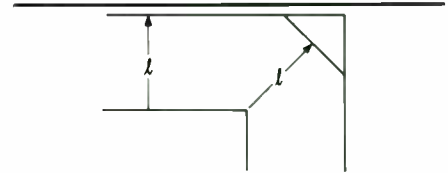
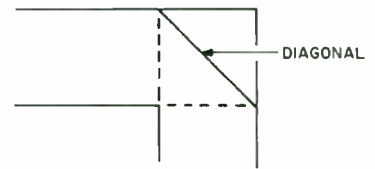

FIGURE 4: Radius corner reflector.
FIGURE 5: Diagonal corner reflector.
Another consideration is the design of the corner reflector in a 90° bend. In previous horn designs, I had approximated the corner reflector position to be tangent to the arc of the radius (Fig. 4). But subsequent wave front calculations showed that the corner reflector should be aligned along the diagonal (Fig. 5). For reasons I will not discuss here, a wave front will remain intact going through a 90° bend if the corner reflector is aligned along the diagonal, but it will be distorted if the reflector is smaller.
**50Hz HORN DESIGN.** Figures 6 and 7, are the sectional views of the bass horn. As you can see, I tried to use the University Classic folding geometry as much as I could in Fig. 4. But because a hyperbolic-exponential horn is quite long, I had to compromise with a quasi-180° bend to fit all the throat manifold in the enclosure. Another compromise was the shortening of the horn from 72 to 70 inches because the folding worked out better. But I'm not sure how and where these compromises affect the overall re-